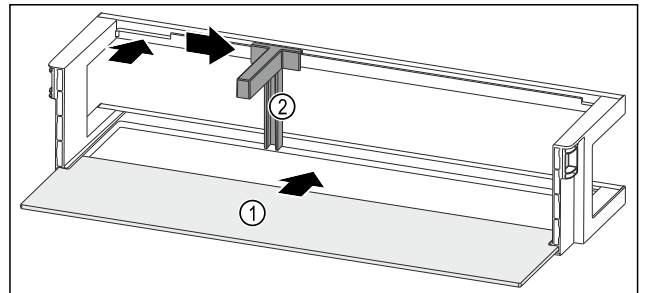

Fig. 242 Door rack with shelf
- ▶ Push the shelf Fig. 242 (1) into the side recesses.
- ▶ Insert the bottle holder Fig. 242 (2) in the recess.
- ▶ Push the bottle holder Fig. 242 (2) to the desired position to the side.